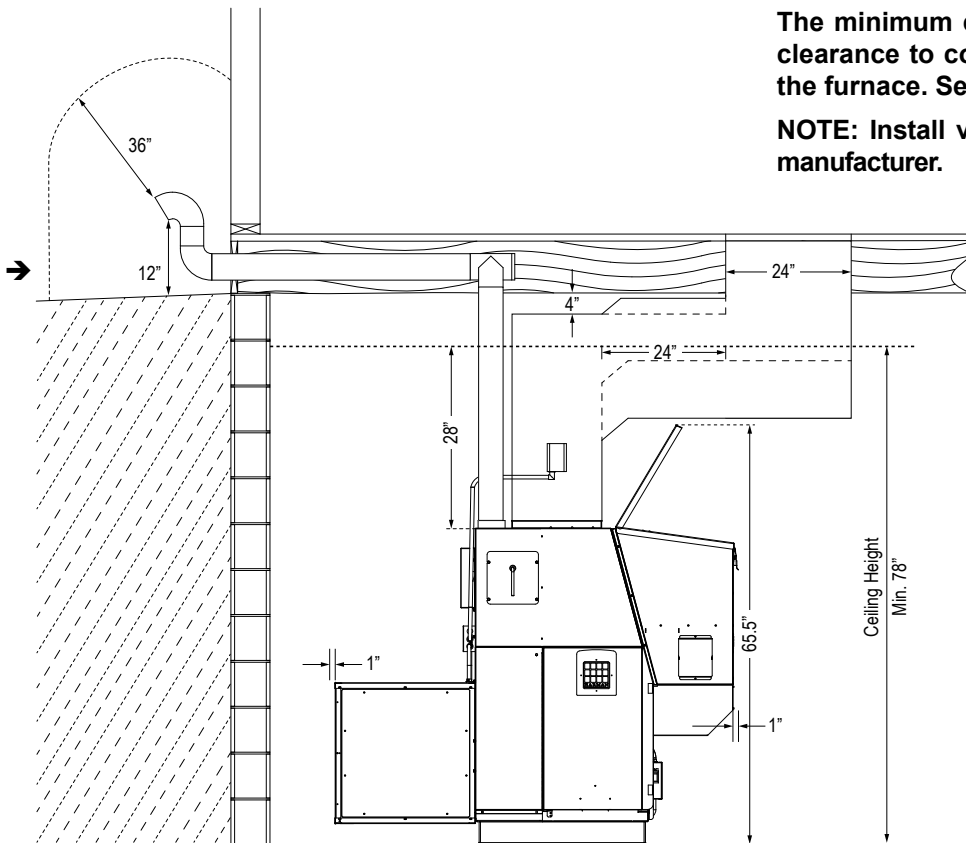

Fig. 22
**The minimum ceiling height is 6'6". This is set by the clearance to combustibles (28") from the top of the of the furnace. See Fig. 22.**